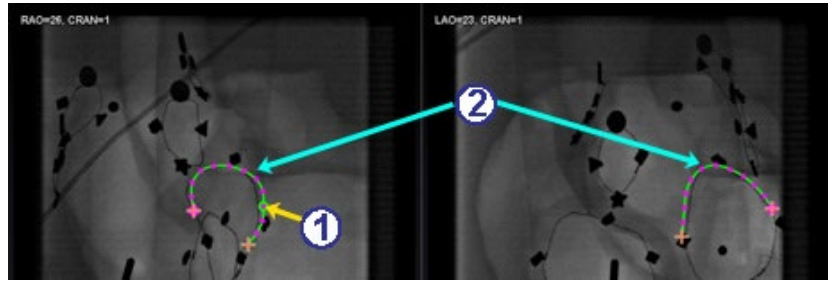
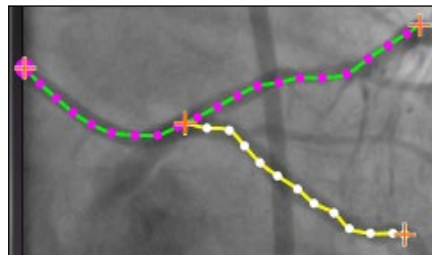

Figure 130. Select branching point on one trunk
Figure 132. Completed branch in selected mode
- ① To add branches, start with a pair of complementary trunks.
- ② Click **Add Branch**.
Step 2 (Figure 130)
- ① The user should select the point on the trunk where they wish to start the branch (**Figure 130**). The point can be existing or somewhere on the curve. If it's on the curve, a new point is created. The selected point is indicated by a green circle.
- ② Notice the trunks are now in the unselected mode, as evident by the green and purple (magenta) colors. The focus has changed to the branch about to be drawn.
Step 3 (Figure 131 and Figure 132)
existing point, simply right-click elsewhere to deselect that point. Complete the drawing by double-clicking the distal point, and the branch will display in the selected mode, yellow and white, **Figure 132**.